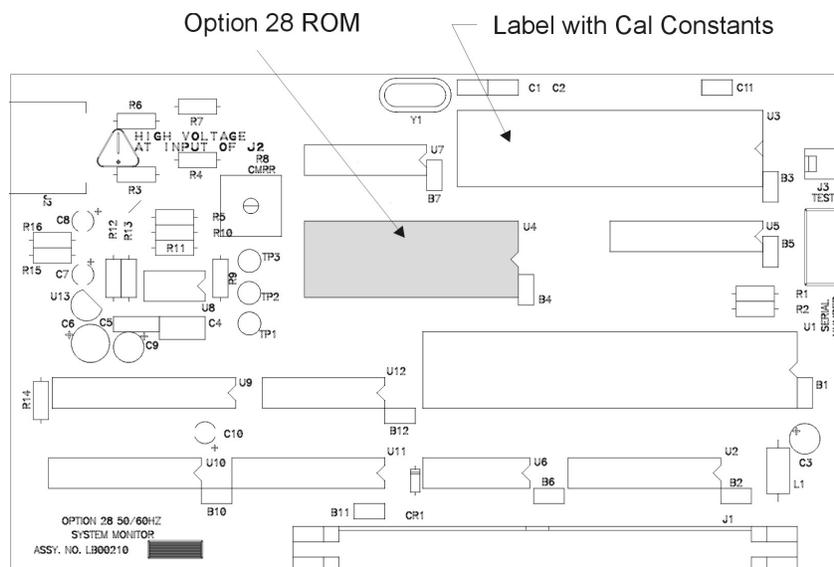

Figure 1: Option 28 ROM Location
3. See Figure 1 and, using the appropriate IC removal tool, remove the existing program ROM on the Option 28 board. It is located on the right side of the clock while viewing from the front panel.
These commands restore the voltage and phase calibration initially installed at the factory. Calibration constants are normally located on a white label fixed on the Option 28 board (close to the ROM socket) and seen in Figure 1.